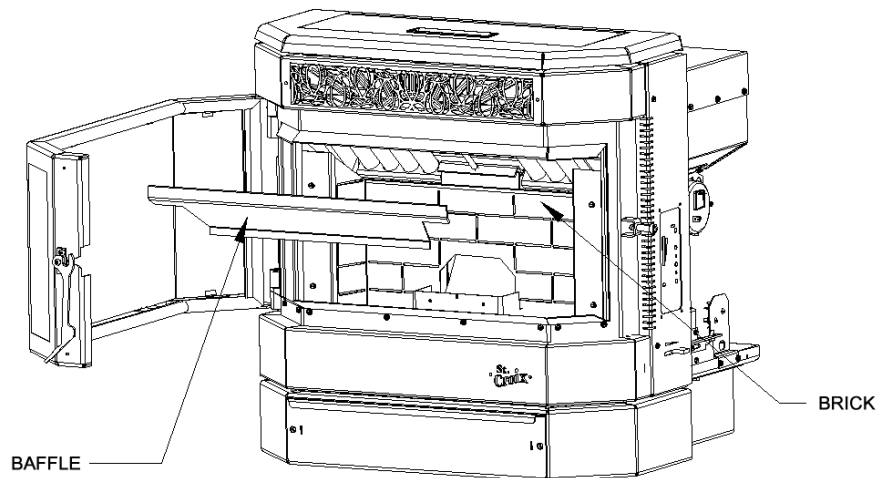

Figure 30
1. **Heat Exchange Baffle.** Remove the baffle and clean the ashes that accumulate on a regular basis. Once a month or sooner, depending on the quality of fuel being used (*See Figure 30*)